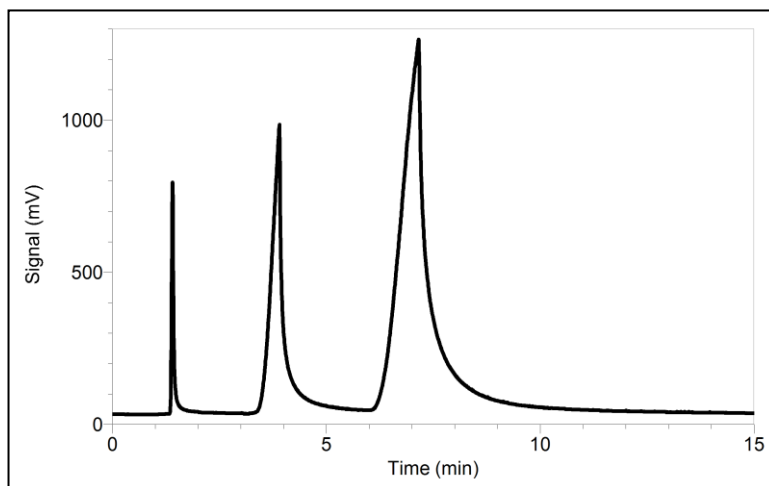

Figure 1 Sample gas chromatogram
The Vernier Mini GC uses a 11-meter-long steel column (inner diameter 0.53 mm) which is coated with a nonpolar silicone polymer that serves as the stationary phase. A sample, consisting of one or more compounds, is injected into the column and is carried by atmospheric air, which is the mobile phase. Organic compounds flowing out of the chromatography column are indicated as a peak on a chromatograph, as shown in Figure 1. The unique time it takes for a specific compound to exit the column after it is injected is called the *retention time*. Using a GC, a compound may be identified from a mixture of compounds by its retention time, but it is easier to prove the absence of a compound than its presence, as discussed below.
- b. Draw up 0.15 μL of liquid. Record your actual volume; you may need to decrease the volume in order to obtain the sharp peaks shown in Figure 1.